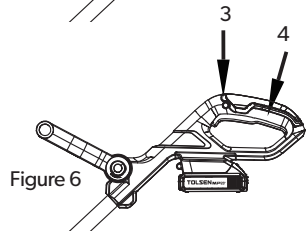

Figure 6
- Pull the safety button "3" in Figure 6.
- Pull the switch button "4" in Figure 6.
- Release the switch button "4" in Figure 6.